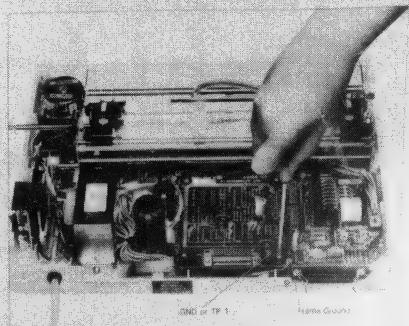

Fig. 2 Installation of I/F Board
**STEP 3:** Plug the I/F board connector into the connector on the control circuit board of the printer as shown in Fig. 2.